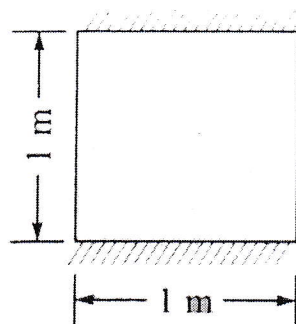

Figure 4
9. For the two dimensional body as shown figure 4, determine the temperature distribution. The left and right ends have constant temperatures of 200°C and 100°C respectively. Take $k=5$ W/cm⁰C. The body is insulated along the top and bottom. [10]